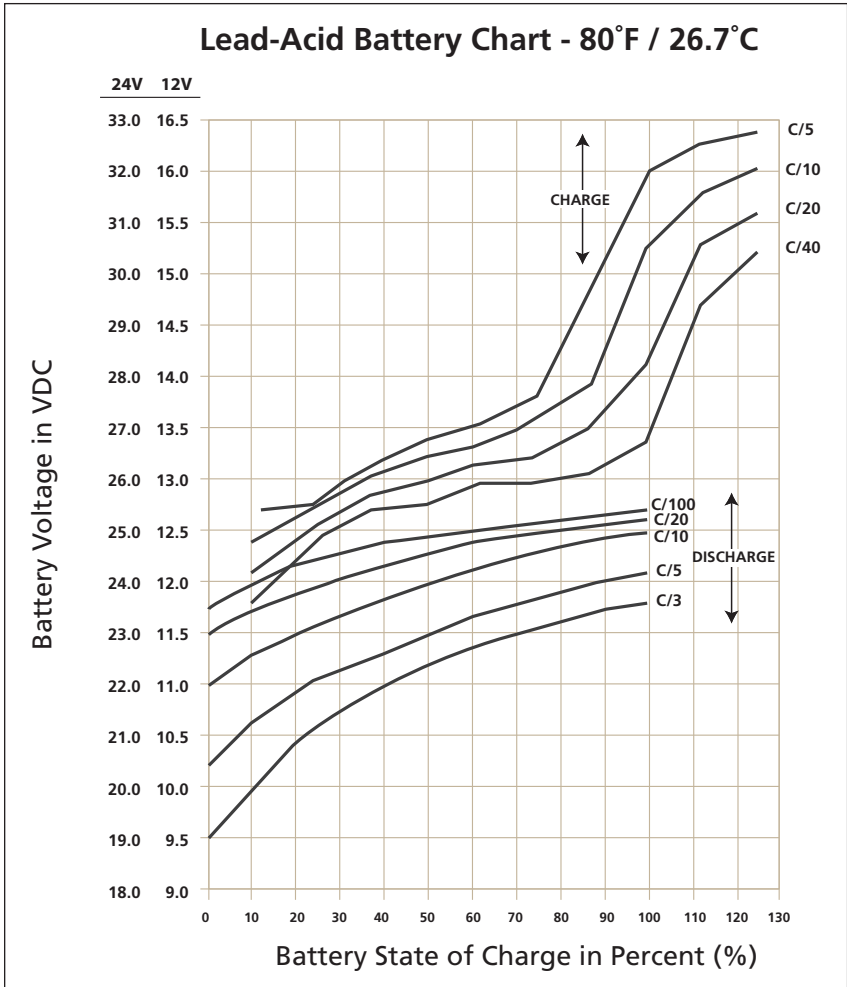

Fig 4.1 State of Charge versus Battery Terminal Voltage for 12V / 24V Battery
Charge / Discharge Curves as shown in Fig 4.1 are used to determine the State of Charge / Discharge of Lead Acid Battery based on its terminal voltage and the rate of charge / discharge current specified as "C-rate" (See Section 4.2 below). Details of using Charge / Discharge Curves in Fig 4.1 to determine State of Charge / Discharge of Lead Acid Battery are explained in the succeeding Sections.
4.3.1 Fig 4.1 shows examples of State of Charge / Discharge Curves for different C-rates for typical 12V / 24V Lead Acid Battery at 80°F / 26.7°C. These curves are used to determine the State of Charge / Discharge of the battery based on its terminal voltage.
4.3.2 Example of Determining State of Charge (using Fig 4.1) when Charging 12V, 100Ah Battery at C-rate of 0.1C or C/10 or 10A: Refer to Charge Curve marked C/10 of the upper 4 curves marked "CHARGE". States of Charge at different battery terminal voltages will be: (a) At 15.3V = 100% charged; (b) At 14.3V = 90% charged; (c) At 13.5V = 70% charged; (d) At 12.5V = 15% charged
4.3.3 Example of Determining State of Discharge (using Fig 4.1) when Discharging 12V, 100Ah Battery at C-rate of 0.33C or C/3 or 33.3A: Refer to Charge Curve marked C/3 of the lower 4 curves marked "DISCHARGE". States of Discharge at different battery terminal voltages will be: [a] At 9.5V = 100% discharged (0% charged); [b] At 10.4V = 80% discharged (20% charged); [c] At 11.5V = 28% discharged (72% charged) and [d] 11.75V = 0% discharged (100% charged)